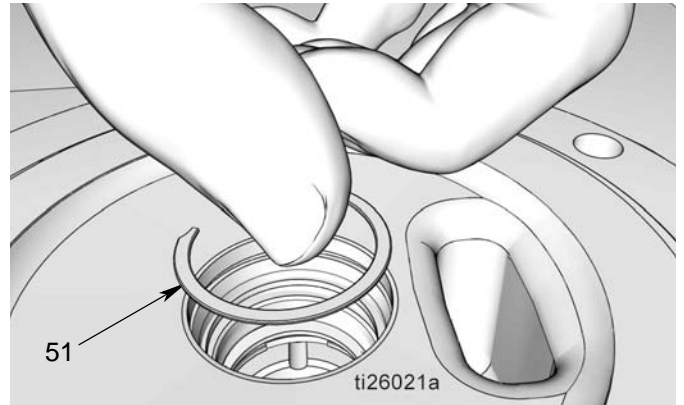

FIG. 34
- f. Install retaining clip (51) (FIG. 34). You should hear a “click” when the retaining clip is correctly seated in the groove.